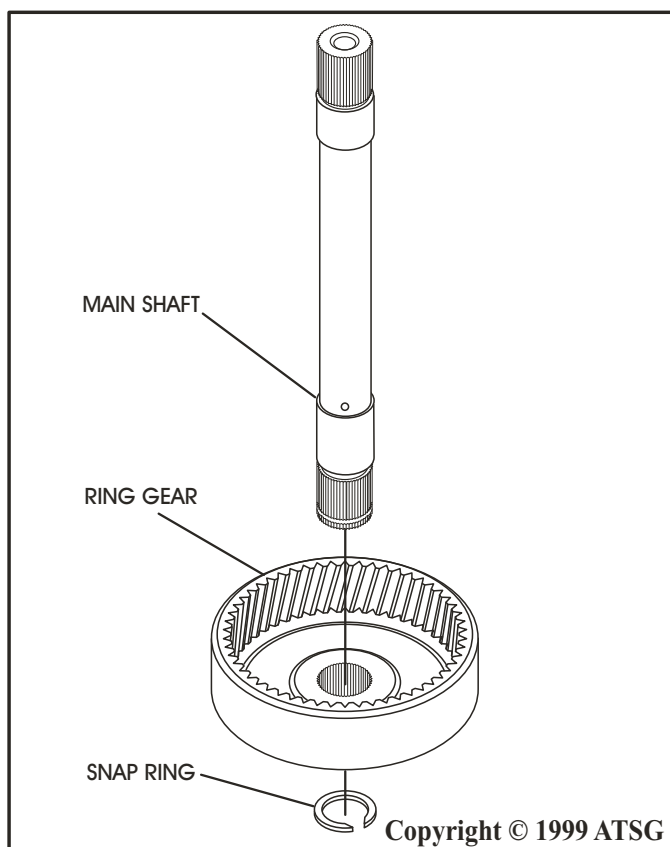

Figure 58
7. If removed, install the transmission main shaft into the ring gear as shown in Figure 58.
8. Install the main shaft retaining snap ring into the groove in main shaft and ensure that it is fully seated (See Figure 58).